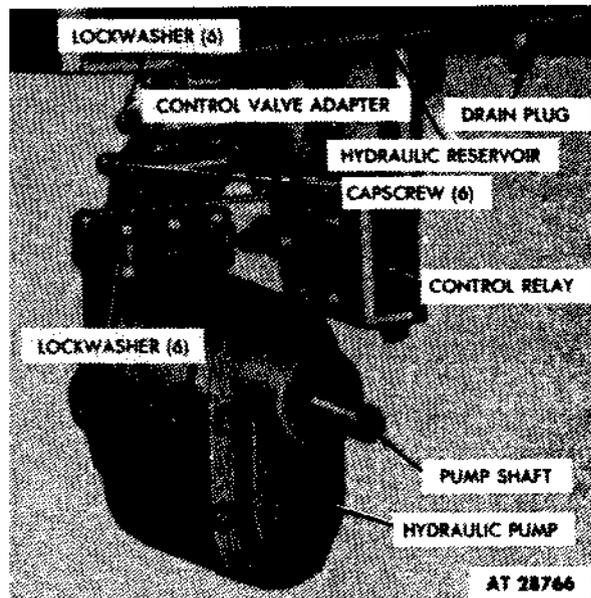

Figure 2-221. Right front view of hydraulic pump mounting.
b. Installation (fig. 2-221).
(1) Position the hydraulic pump on the bottom flange of the control valve adapter, and secure the pump to the flange with the six capscrews and lockwashers. Tighten the capscrews.
(2) Install the power takeoff-to-pump propeller shaft on the pump shaft.
(3) Replace the drain plug, and fill the hydraulic system.
(1) Remove the hydraulic pump (para 2-242).
(2) Remove the six capscrews (fig. 2-221) and
(4) Position the control valve adapter (fig. 2-221) on the control valve assembly, and secure it with six capscrews and lockwashers.
(5) Install the hydraulic pump (para 2-242).